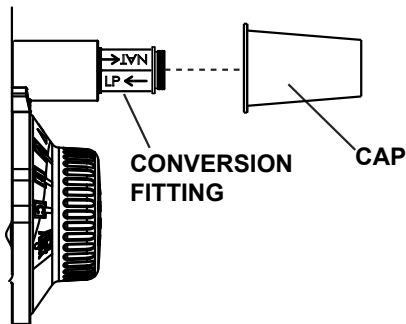

Figure 38: Gas Conversion
Make sure both the conversion fitting (Figure 38) and the manifold burner assembly (see door label) are for the type of gas supplied to your home.
- Remove the cap (shown in Figure 38).
- If you are converting the unit to use natural gas, verify that the "NAT" arrow on the fitting is pointing toward the gas control valve/thermostat. The blue band on the fitting should touch the metal boss. See Figure 38.